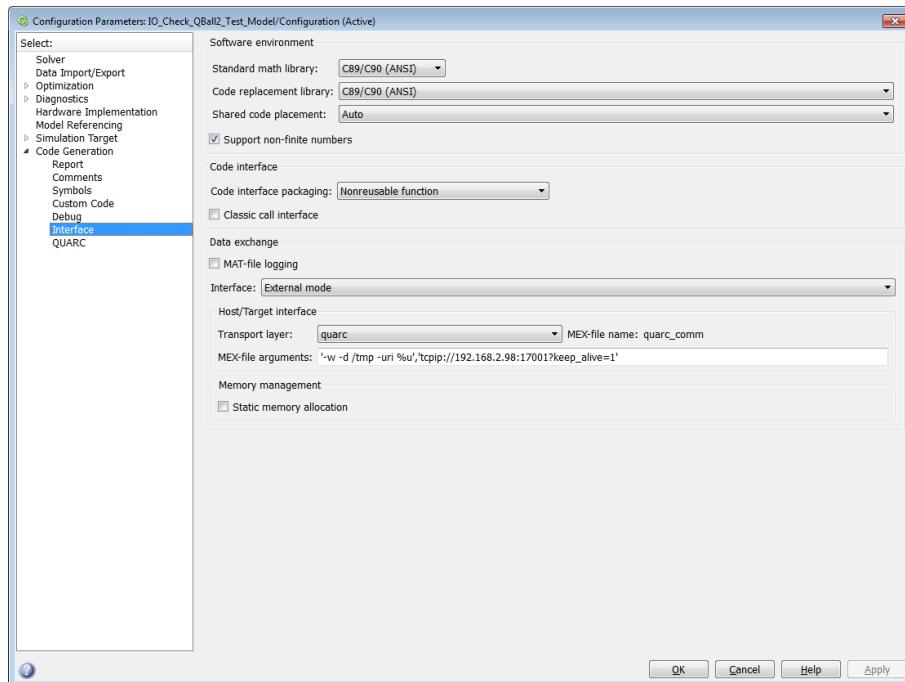

Figure 4.14: Model target IP settings
- As shown in Figure 4.14, under the MEX-file arguments type: